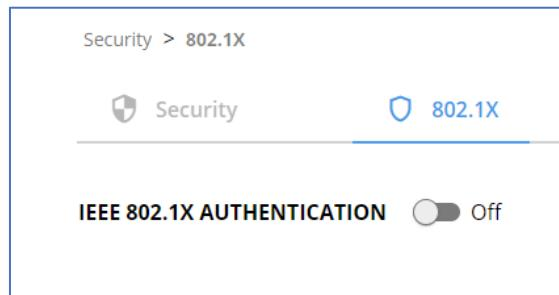

Figure 51: 802.1X Tab
2. Select the Security Tab. The Security settings appear (Figure 51).